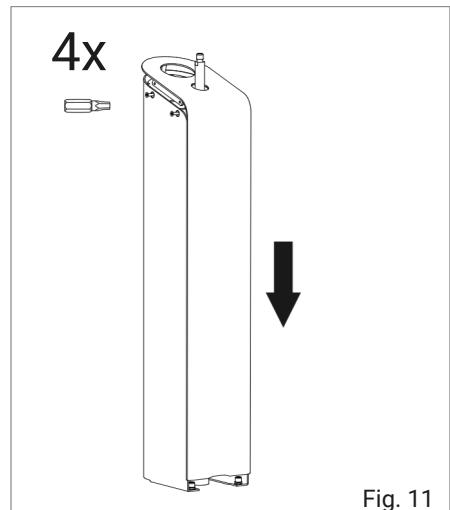

Fig. 11
- 11 Now you can slide the air pump casing back over the housing until it audibly clicks into place and screw the four M4 safety screws on (Fig. 11) hand tight.